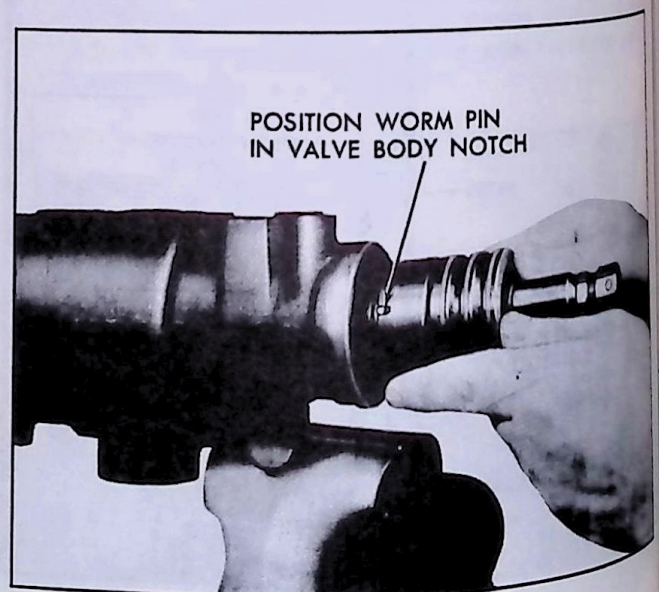
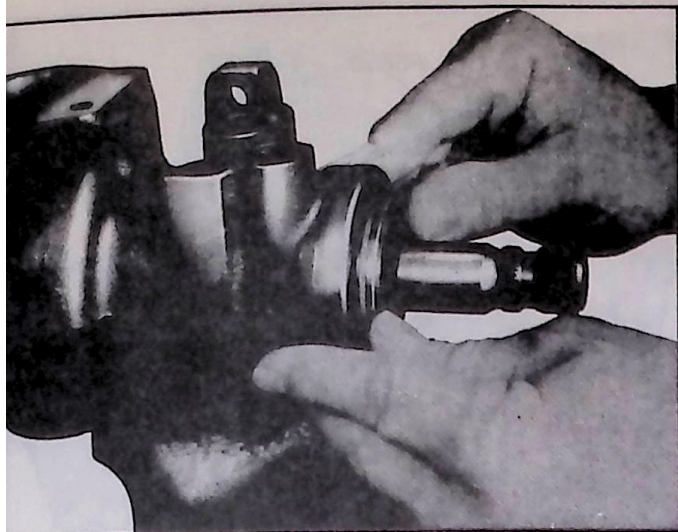

Fig. 55--Valve to Worm Alignment
Fig. 56—Installing Valve Body
2. Lubricate the valve body teflon rings and a new stub shaft cap "O" ring with Power Steering Fluid. Install the stub shaft cap "O" ring in the valve body so it is seated against the stub shaft cap. Align the NARROW NOTCH in the valve body with the pin in the worm, then install the valve and stub shaft assembly in the gear housing (fig. 55). Apply pressure to the VALVE BODY when installing. If pressure is applied to the stub shaft during installation, the stub shaft may be forced out of the valve body (fig. 56).